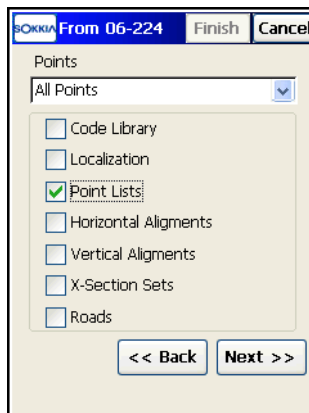
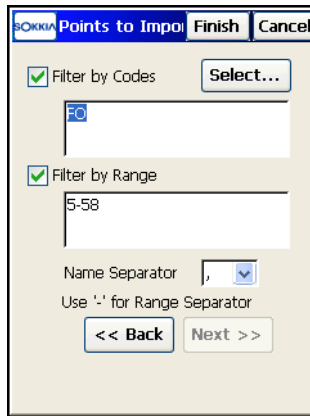

Figure 5-2. Import from Job
Figure 5-4. Points to Import
2. In the *From <Job>* screen (Figure 5-2) select whether points are to be imported, and if necessary, filter the imported points either by type, by range and code, or by type, range, and code. Place appropriate check marks if the following parameters should be imported along with points: *Code Library*, *Localization*, *Point Lists*, *Horizontal Alignments*, *Vertical Alignments*, *X-Section Sets*, or *Roads*. Tap the **Next** button..
3. If *By Type* or *By Type, Range and Code* is selected in the *Points* drop-down menu of the *From <Job>* screen (Figure 5-2 on page 5-2), select the types of points to be imported on the *Select Point Type(s) to Import* screen.
5. If *By Range and Code* is selected in the *Points* drop-down list of the *From <Job>* screen (Figure 5-2 on page 5-2), on the *Points to Import* screen, select the codes and/or the range of points to be imported (Figure 5-4 on page 5-4).